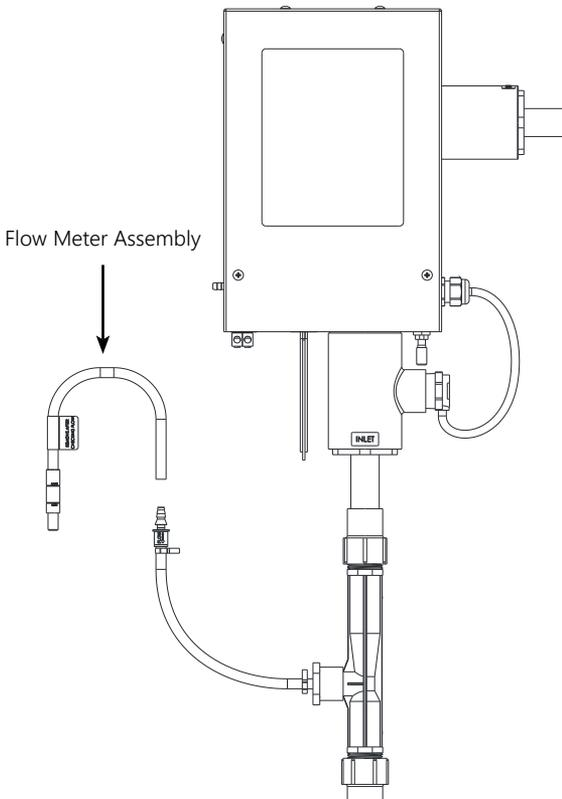

Figure 3: Flow Test Diagram
1. Temporarily disconnect tubing from inlet side of the check valve and attach included flow meter assembly (see Figure 3).